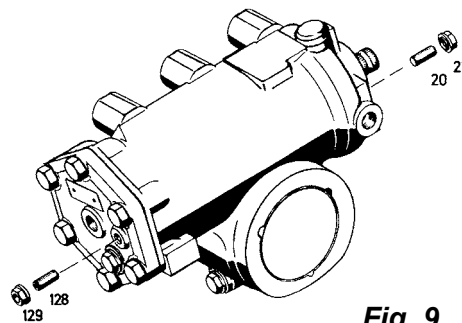

Fig. 9
5.1 Hydraulic steering limitation with manual setting (Fig. 9)